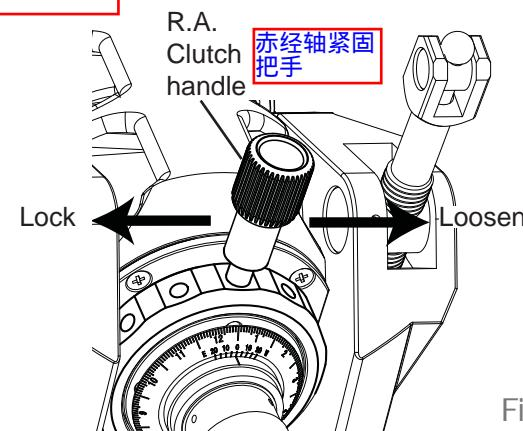

Fig. 1.4b
2. Loosen the R.A. Clutch with the handle, and rotate the R.A. Axis until the counterweight rod is pointing towards the ground. (Fig. 1.4b) 2. 通过把手松开赤经轴紧固装置，转动赤经轴 (R.A. Axis) 至配重杆指向地面。 (详见图示 1.4b)